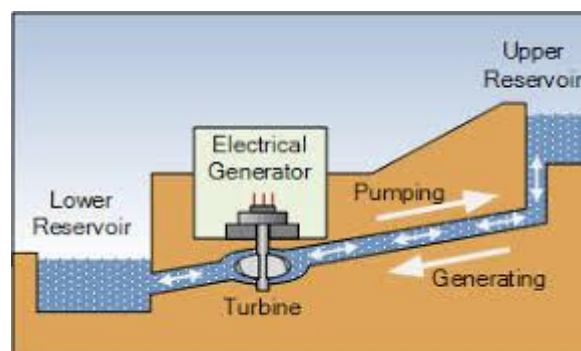

Figure 12. Pumped-Storage System
- **Description:** Water is pumped from a lower reservoir to a higher reservoir (Figure 12) during periods of low energy demand. When energy is needed, the water is released back to the lower reservoir through turbines to generate electricity.